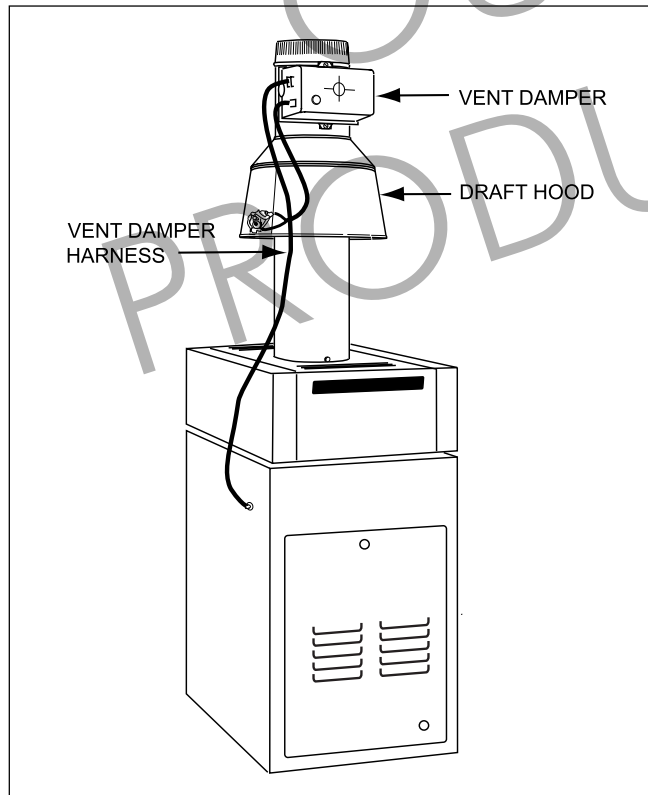

Figure 16. Vent Damper Installation (Model 250 only).
17. Install the vent damper directly to the top of the draft hood outlet. The damper operator should face to the front of the boiler, and the flow direction arrow should point **upward**. Use the vent damper wire harness to connect the vent damper to the boiler. The bracket end of the harness should be connected to the vent damper actuator (see Figure 16).